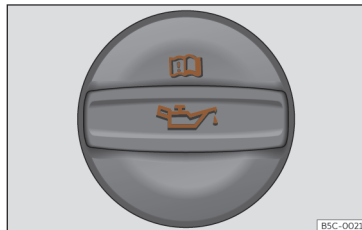

Fig. 233 Oil filler cap cover in the engine compartment.
- Locate the engine oil filler cap. It can be recognized by the symbol on the cover >>> **Fig. 233.**
- Unscrew cap from the oil filler mouth >>> **Fig. 233.**